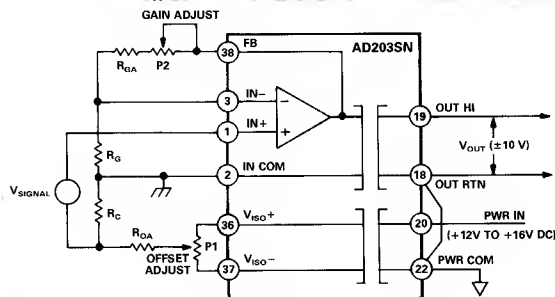

Figure 20. Input Adjustments for the Noninverting Mode of Operation
Offset Adjustment. Figure 20 shows the suggested input adjustment connections when the isolator's input amplifier is configured for the noninverting mode of operation. The offset adjustment circuit injects a small voltage in series with the low side of the signal source. The adjustment potentiometer P1 modulates the injection voltage and is therefore responsible for nulling out the offset voltage.
- The offset adjustment circuit of Figure 20 will not work if the signal source has another current path to input common, or if current flows in the signal source LO lead. If this is the case, use the output adjustment procedure.
Gain Adjustment. Figure 20 also shows the suggested gain adjustment circuit. Note that the gain adjustment potentiometer P2 is incorporated into the gain-setting resistor network at the isolator's input.